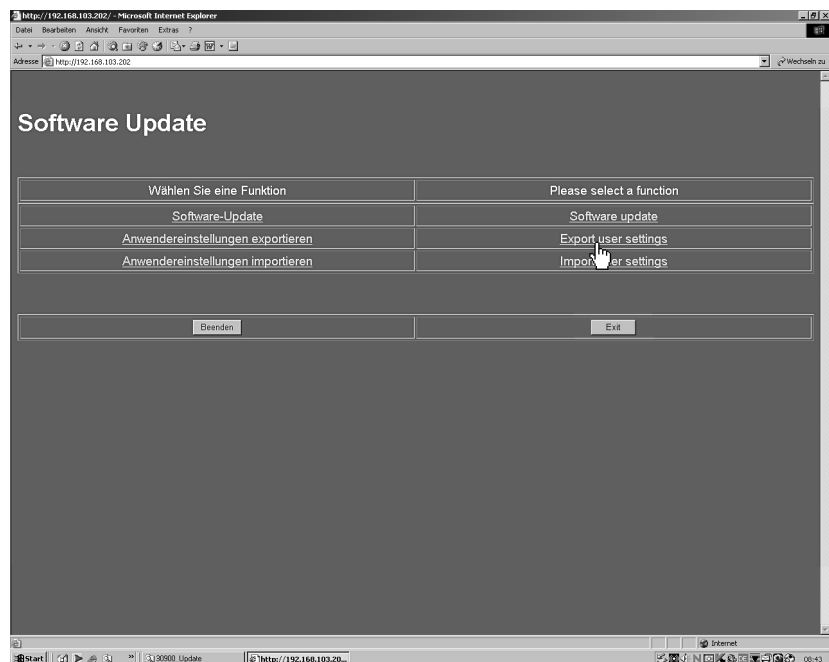
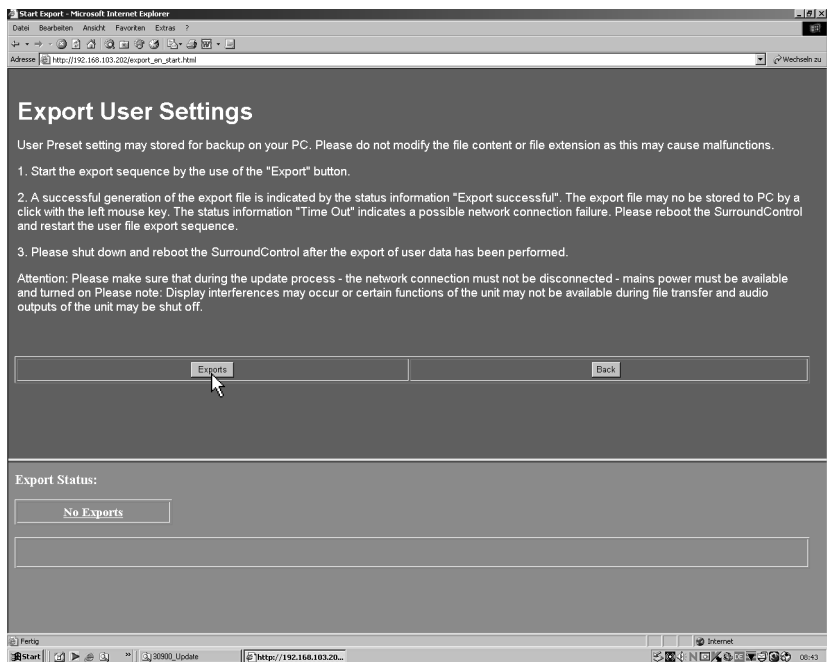
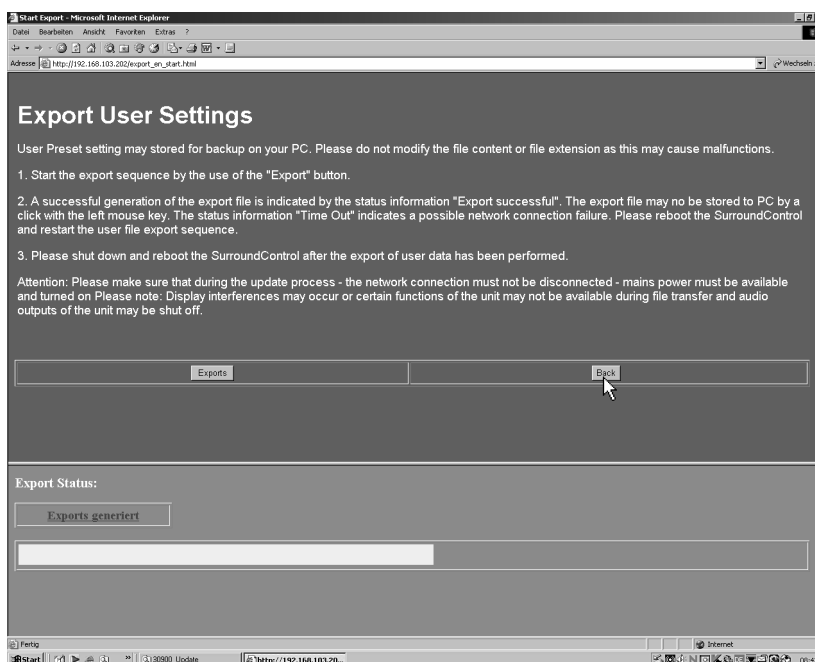

Fig. 5-2: Software Update Program menu in web browser
Fig. 5-3: Display of the Export menu page
Fig. 5-8: End of the export process
2. The SurroundControl 30900(-24) should respond with a screen like the one shown in Fig. 5-2. Choose Export user settings. **Please note the instructions on the Export menu page** (see Fig. 5-3).
3. Please click the Exports button (see Fig. 5-3).
- When saving the file was successful please click the Back button (see Fig. 5-8) to get back to the home page (see Fig. 5-2).
- If you want to leave the update program please click the Exit button (see Fig. 5-2). The SurroundControl 30900(-24) has to be restarted. Please wait approx 5 sec. after shut down of the unit before you power it up again.
2. The SurroundControl should respond with a screen like the one shown in Fig. 5-2. Choose Software update.